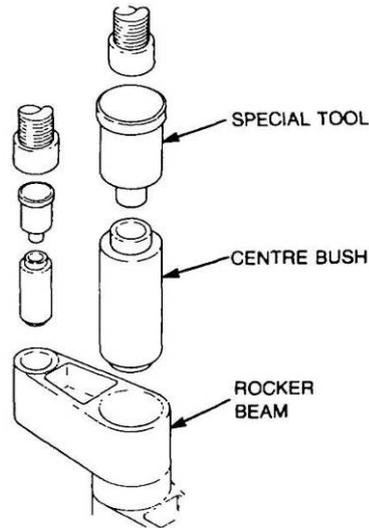

Figure 127 Replacement of the Rocker Beam Centre Bush
- c. Position special tool 18GA083 on the centre bush, ensure that the tool is correctly aligned and press the centre bush from the rocker bore (Figure 127).